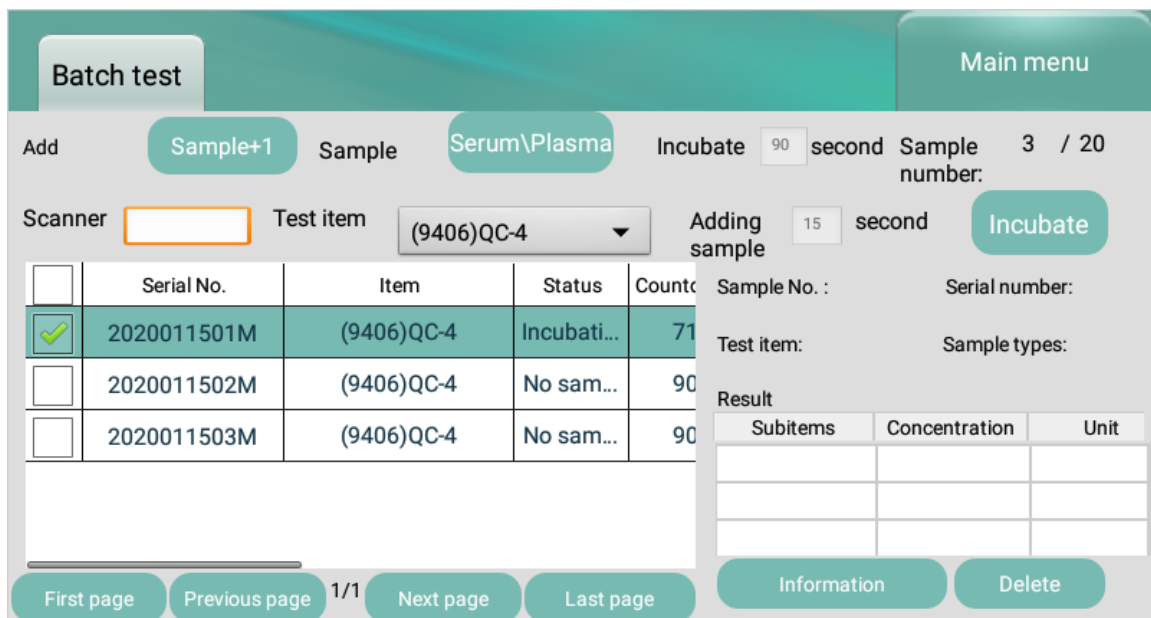

Figure 4.3.2
3. Select [Sample +1] to add another sample. Select the corresponding sample and select [Delete] to delete a sample. (Figure 4.3.2)